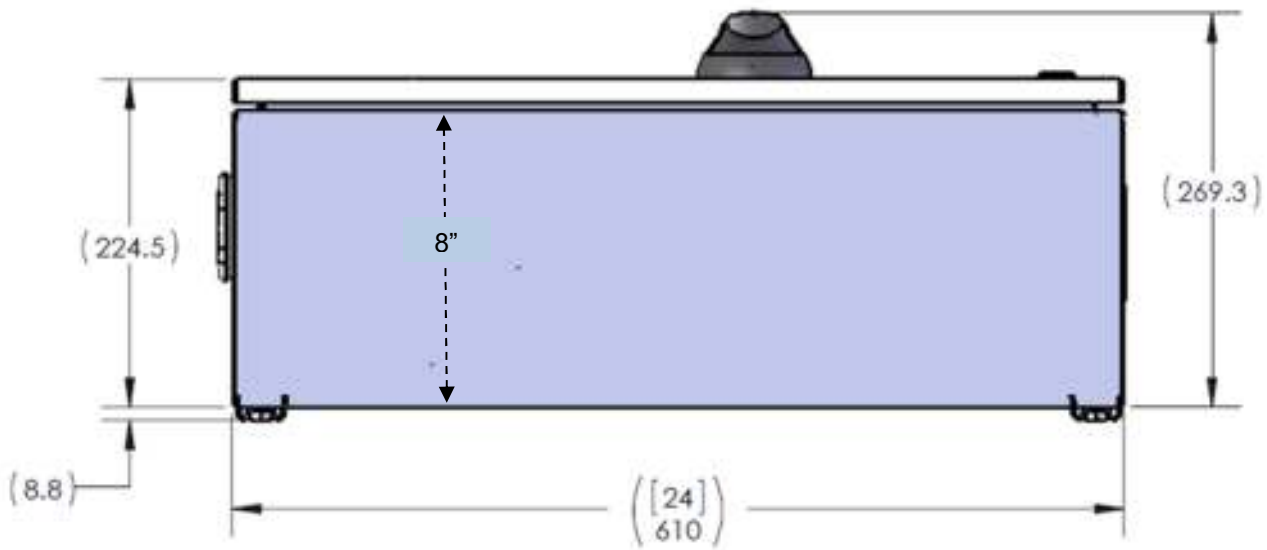

Fig 4.3 Bottom of the CR1500-xxP Enclosure
- ✓ Conduit and strain reliefs can be located anywhere suitable on the bottom face of the Combiner as shown in Figure 4.3.